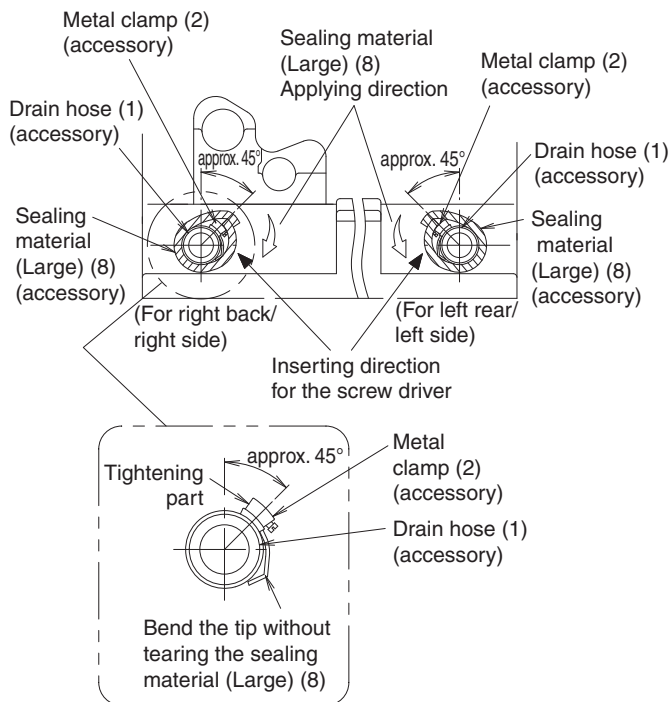

Fig. 26
(Install the metal clamp (2) so that the tightening part is in the range of about 45° as shown in the Fig. 26.)
- Bend the tip of the metal clamp (2) so that the sealing material does not bulge. **(Refer to Fig. 26)**